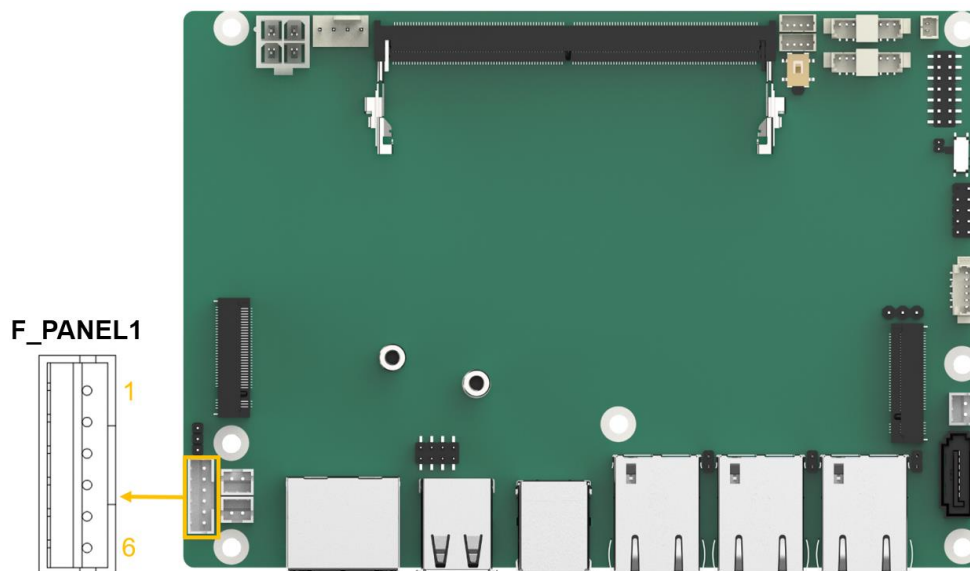

Figure 4-22: Front Panel Connector Location
- CN Location:** See Figure 4-22